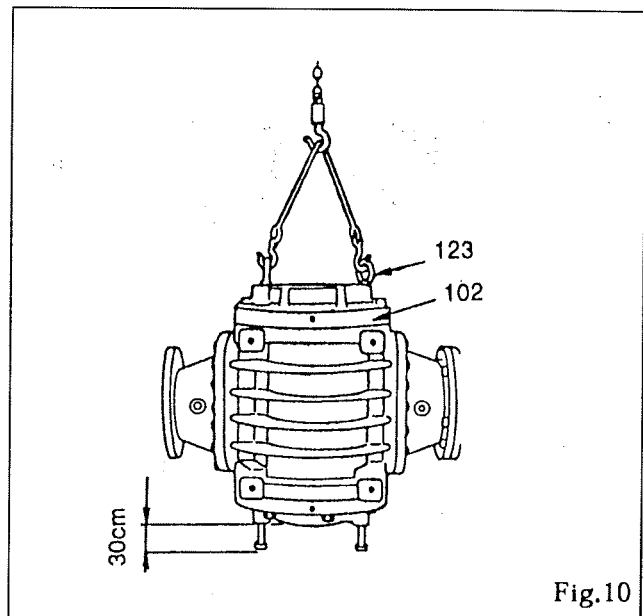

Fig.10
(2) Using the four eyebolts (123) furnished, place the flowmeter body upright with front cover (102) up (Fig. 10).